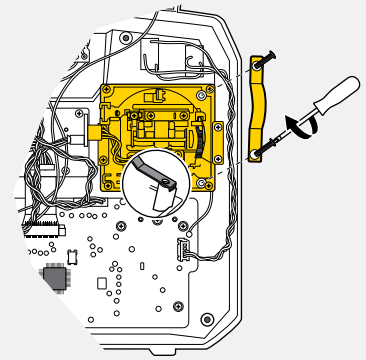

Fig. 19
10. Place the supplied small metal plate over the straight knurled wheel on the right. Insert the nose of the plate into the notch as shown in [Fig. 19]. Bolt it down using the supplied screws. Adjust how hard or easy the throttle stick moves with the screw opposite the notch: loosen the screw for less or tighten it for more friction.